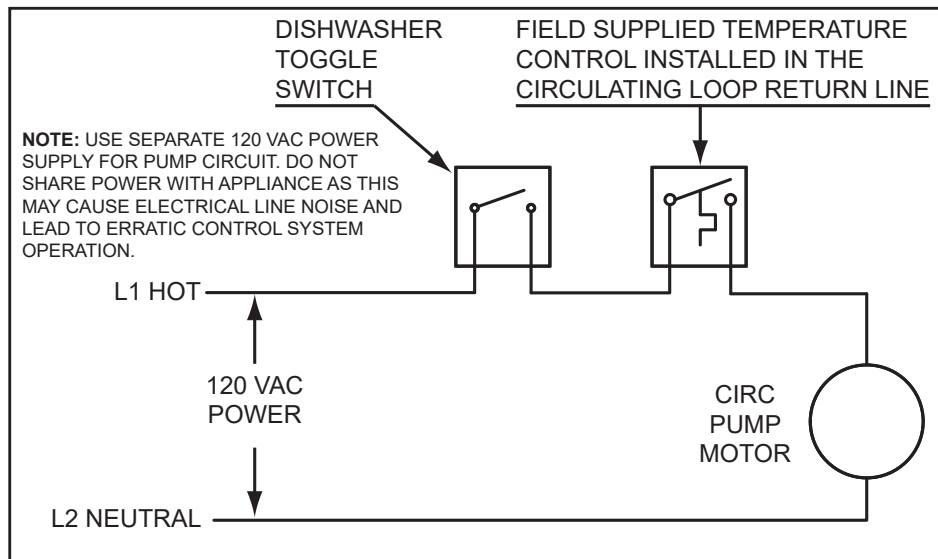

Figure 83. Recirculating Loop with Dish Washer and Toggle Switch
7. If a pump is being installed in a recirculation loop between the water heater and a commercial dishwasher wire according to *Figure 83* (page 98).
7. If a pump is being installed in a recirculation loop between the water heater and a commercial dishwasher wire according to **Figure 83** (page 98).